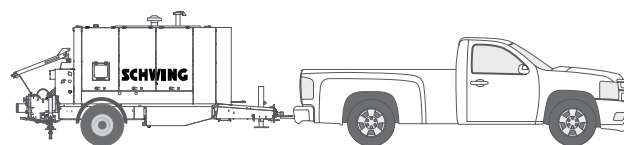

Figure 4
4. Lower the pintle hitch onto the receiver mount until the full weight of the stationary pump is on the mount. The stationary pump must be level with the tow vehicle (Figure 4).